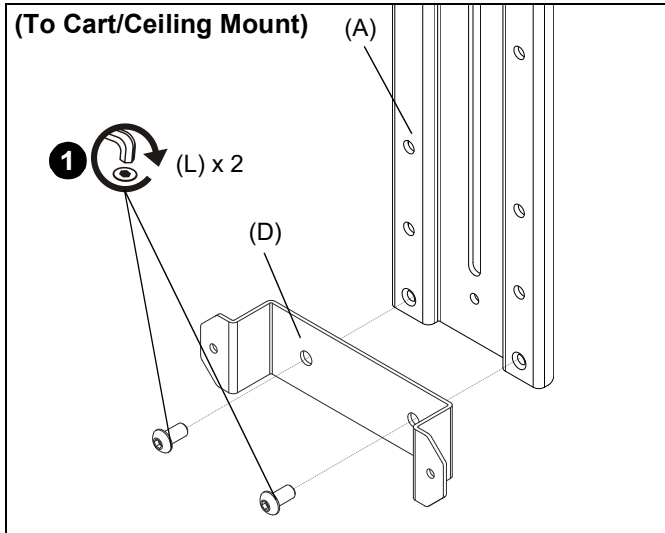
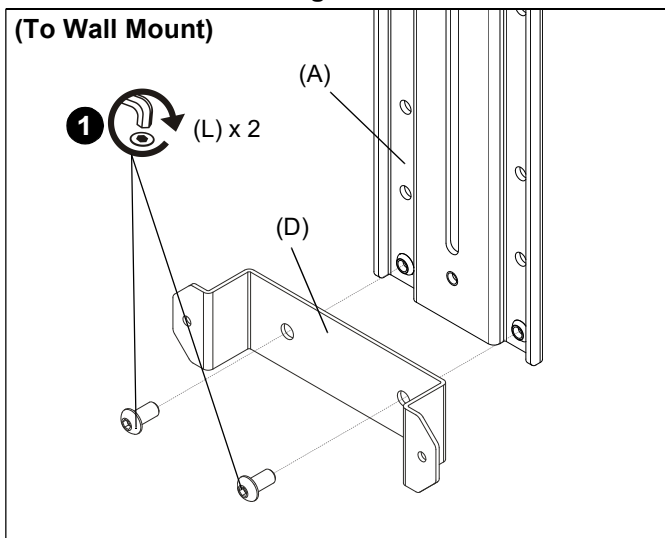

Figure 1
Figure 2
1. Attach camera bracket (D) to upright bracket (A) using two 1/4-20 x 1/2" button head machine screws (L). (See Figure 1) or (See Figure 2)